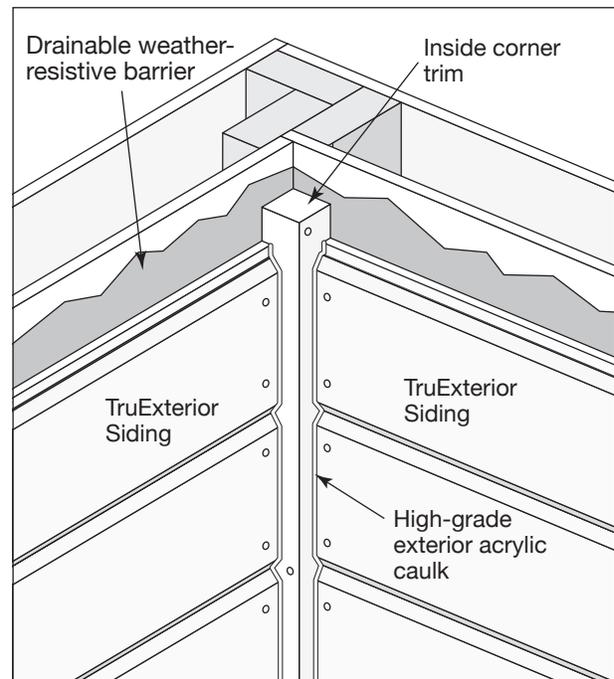

Fig. 8
- Siding may be installed right up against the trim and sealed with a high-grade exterior acrylic caulk (**Fig. 8 & 9**)
- Butt each course of siding up to the corner trim and secure in place (**Fig. 8**)
- Seal the joint between the corner trim and the siding with high-grade exterior acrylic caulk (**Fig. 8**)